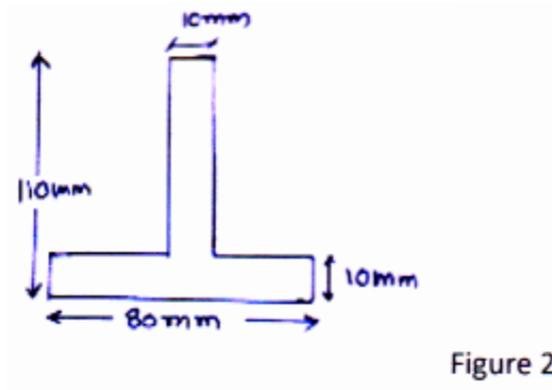

Figure 2
- Q3) a) Find centroidal co-ordinates of lamina given in figure 2. [6]